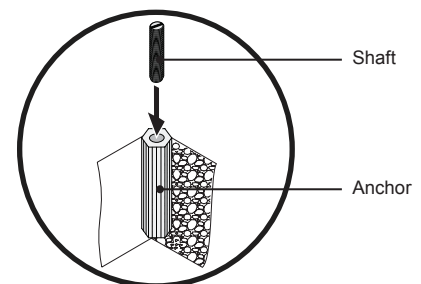

Figure 10. Drilling the Mounting Hole
- 1 At each marked location, drill a  $\frac{7}{16}$ " hole 1½" in depth (Figure 10). Repeat this step for the remaining locations.
- 4 Thread the shaft into the anchor. If needed, a screwdriver maybe used. Leave  $\frac{3}{8}$ " of the shaft exposed (Figure 10).